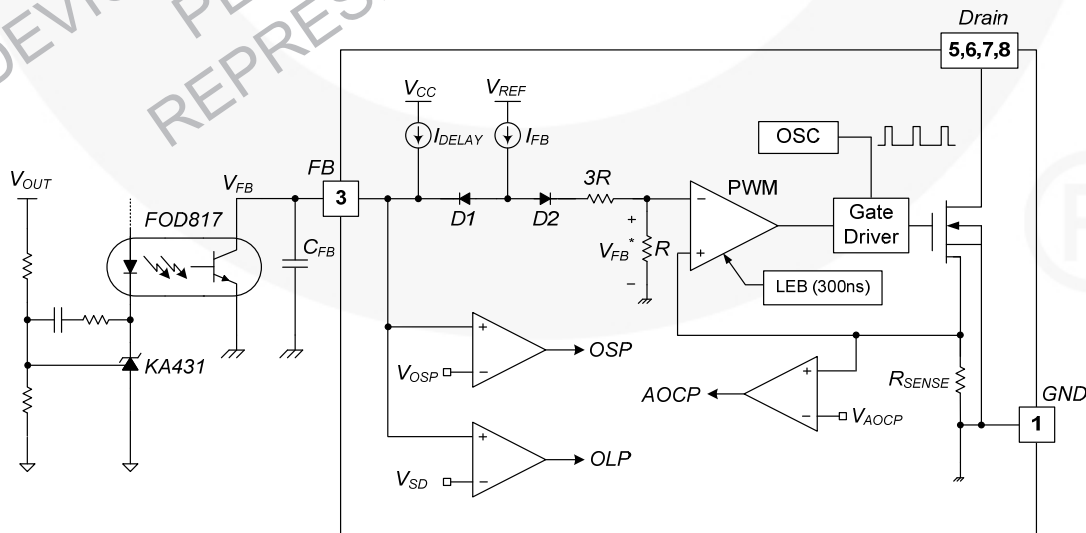

Figure 18. Pulse Width Modulation Circuit
3. Feedback Control: This device employs Current-Mode control, as shown in Figure 18. An opto-coupler (such as the FOD817) and shunt regulator (such as the KA431) are typically used to implement the feedback network. Comparing the feedback voltage with the voltage across the R_{SENSE} resistor makes it possible to control the switching duty cycle. When the reference pin voltage of the shunt regulator exceeds the internal reference voltage of 2.5V, the opto-coupler LED current increases, pulling down the feedback voltage and reducing drain current. This typically occurs when the input voltage is increased or the output load is decreased.
3.1 Pulse-by-Pulse Current Limit: Because Current-Mode control is employed, the peak current through the SenseFET is limited by the inverting input of the PWM comparator (V_{FB}) as shown in Figure 18. Assuming that the 100 μ A current source flows only through the internal resistor ($3R + R = 27k\Omega$), the cathode voltage of diode D2 is about 2.5V. Since D1 is connected when the feedback voltage (V_{FB}) exceeds 1.5V, the maximum voltage of the cathode of D2 is limited at this voltage. Therefore, the peak value of the current through the SenseFET is limited.